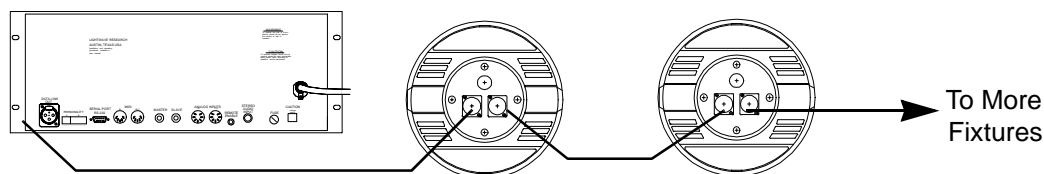

Figure 5. Connecting Cables Using the Daisy Chain Method
1. Plug the male end (pins) of a data cable into the Data Link Out connector on the rear panel of the controller. Refer to Figure 5.
connector of the first fixture. Refer to Figure 5.